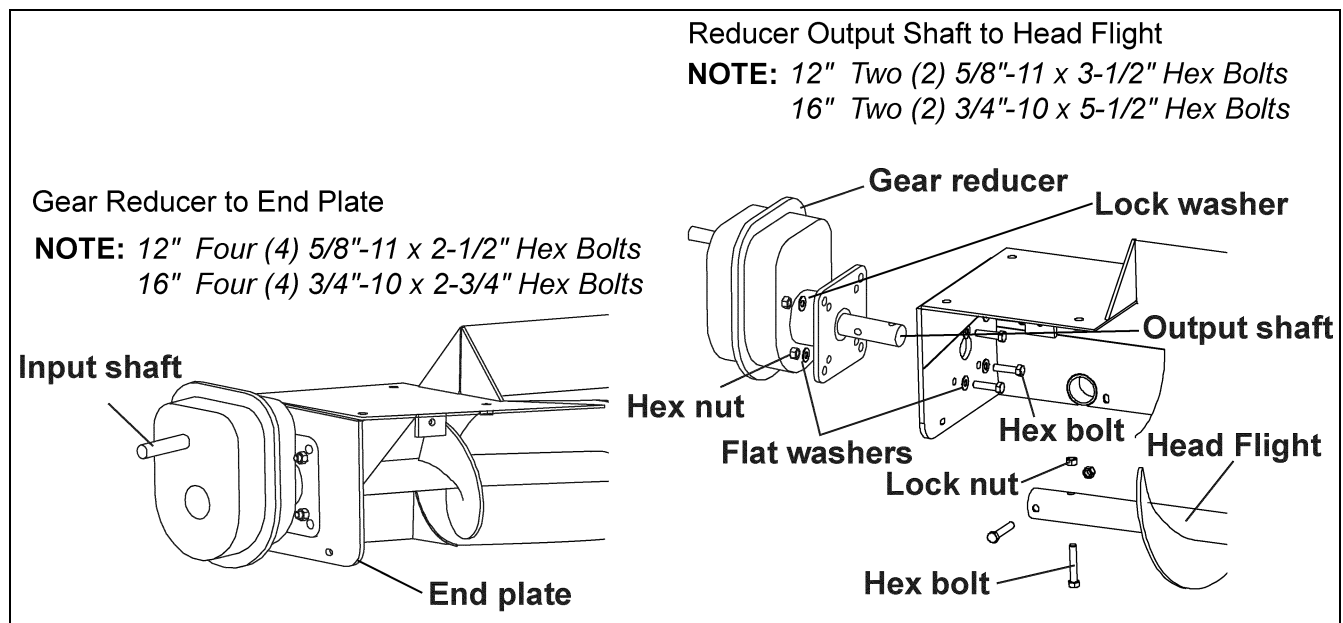

Figure 5H
- A. Slide the output shaft of the reducer through the end plate of the head section and into the end of the head flight. Secure the Reducer Output Shaft to the Head Flight with hex bolts and lock nuts. (See Figure 5H)
- B. Bolt the reducer to the end plate of the head section using hex bolts, flat washers & lock washers, supplied with the reducer. (See Figure 5H)